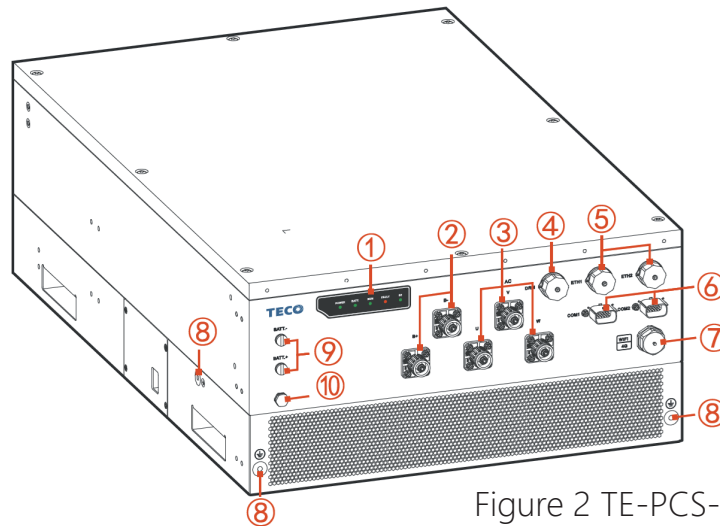

Figure 2 TE-PCS-FM Structure layout diagram
The structure layout of PCS is as shown in Figure 2, corresponding components illustration please see 01.
The location is shown in ⑤ of the appearance diagram of the TE-PCS-FM series in Figure 2.
The location is shown in Figure 2_TE-PCS-FM series appearance diagram ⑥.
The location is shown in ⑦ of the appearance diagram of the TE-PCS-FM series in Figure 2.